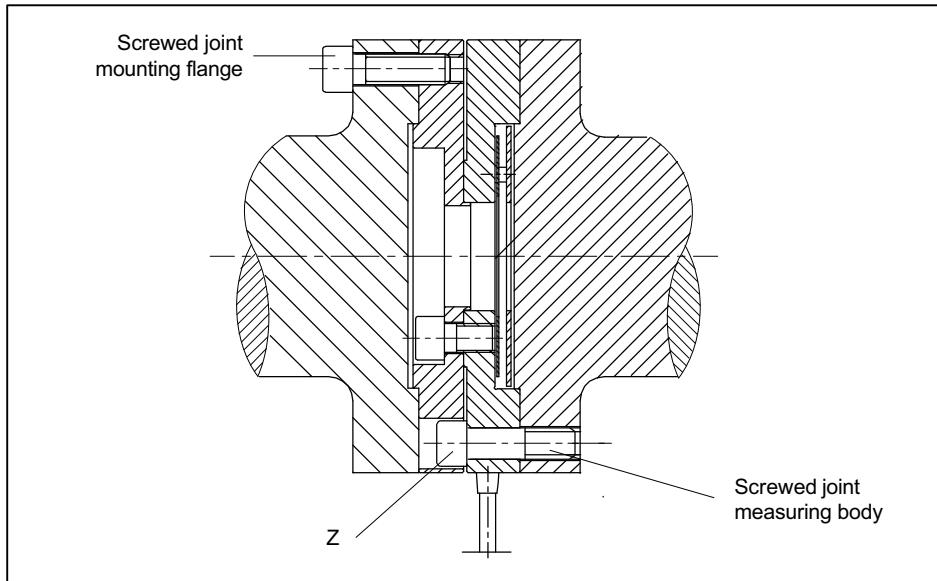

Fig. 5.3    *Screwed joint of the measuring body*
The screw heads (Z), see *Fig. 5.3*, must not sit on the mounting flange.